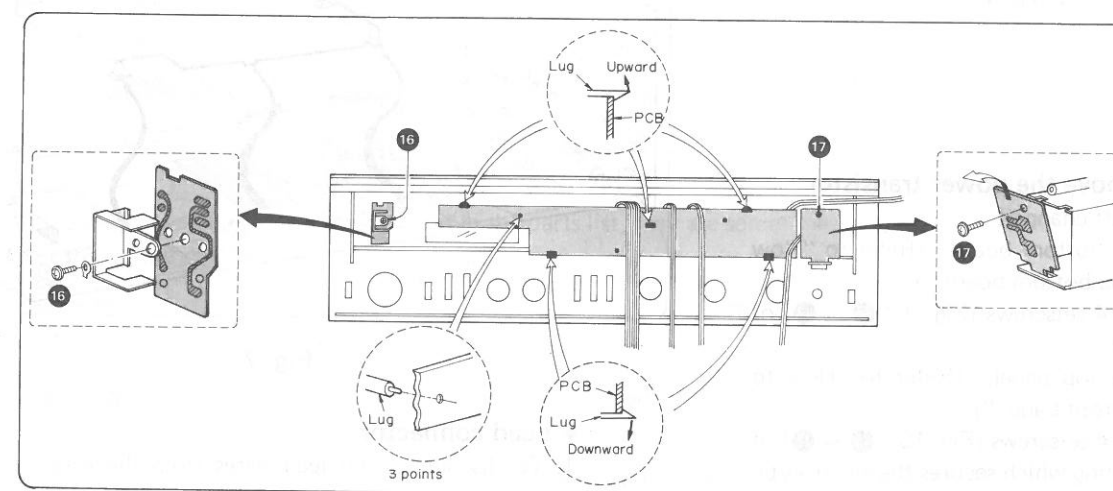

Fig. 4
7. As shown in Fig. 4, remove the setscrews ⑯, ⑰, and 5 lugs to detach the LED display printed circuit boards from the back of the front panel.